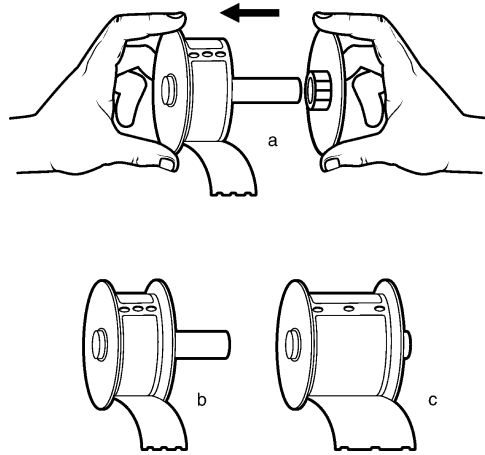

Figure 1-3. Loading labels onto the label spool.
6. Refer to Figure 1-3 while following these instructions: Slide your roll of labels over the spool from right to left as shown in Figure 1-3a. (The labels should roll out from the bottom of the spool.) Then, re-attach the right side of the spool and push it firmly against the label roll. If you're using address labels or other narrow labels, your spool will look like Figure 1-3b. If you're using shipping or other wide labels, your spool will look like Figure 1-3c.